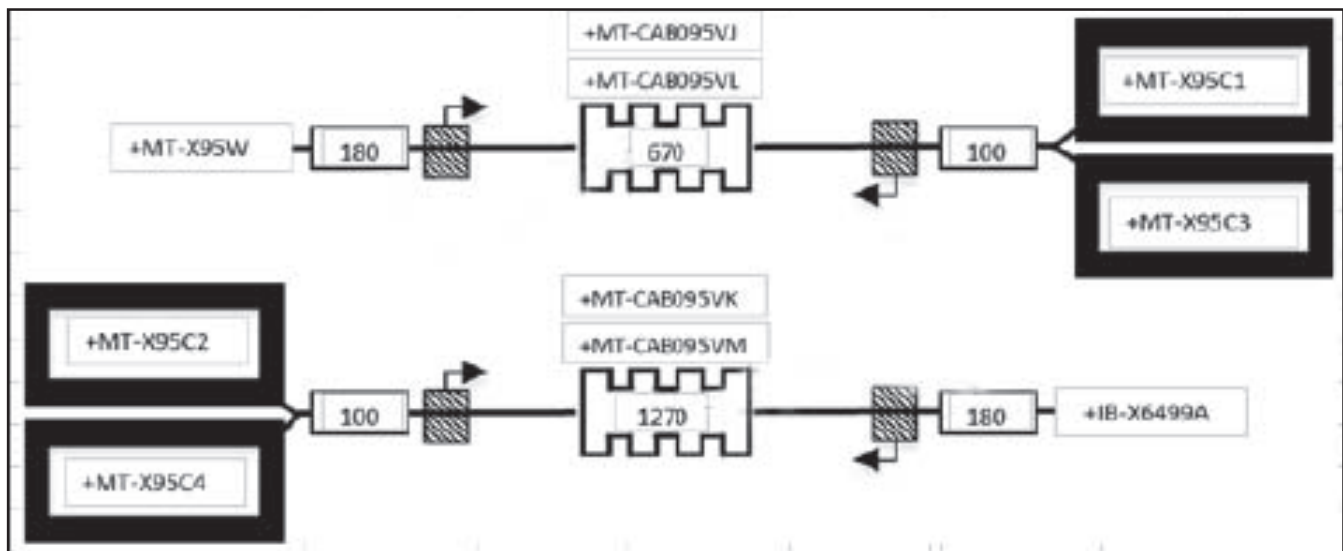

Figure 1 - Bypass Cable Wire Kit N632000435
1.1. Bypass cable wire kit N632000435 (see Figure 1).